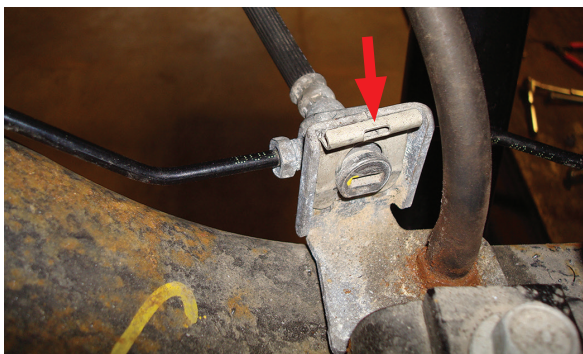

fig. 4
3. It will be necessary to temporarily remove the vent/brake line junction block on the driver side from the axle bracket (fig. 4). Do this by pulling the clip off the front side of the junction block and pull it back to remove it from the bracket.